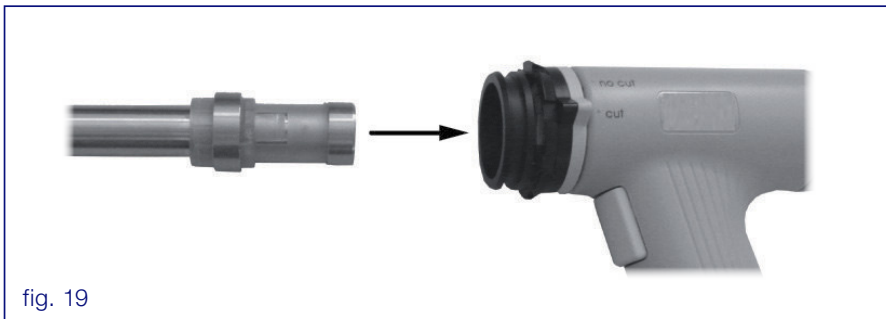

fig. 19
- Insert Cutting Module into the Grip Module (fig. 19).